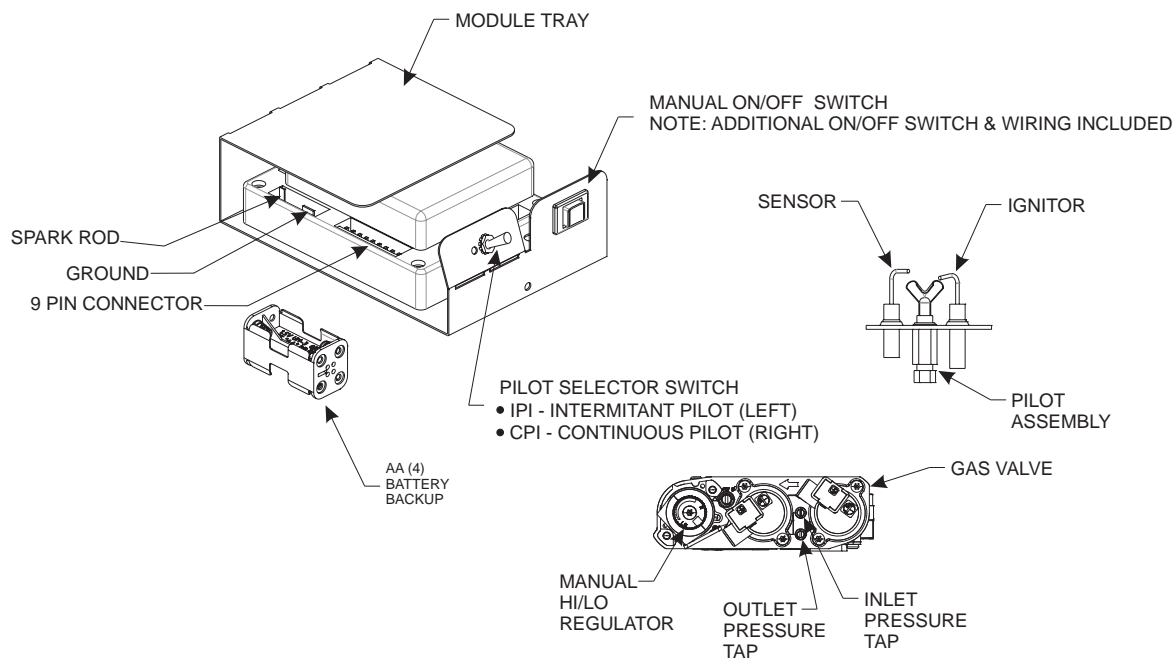

Figure 75
See Figure 75.
3. The gas valve has inlet and outlet pressure taps as shown in **Figure 75**. Refer to pages 8 and 17 for gas pressure requirements.
NOTICE: The gas control has a manual HI/LO flame adjustment knob (regulator) that allows you to increase or decrease the height of the burner flame. **See Figure 75.** Rotate the HI/LO knob counterclockwise to "HI" to increase the flame height, and clockwise to "LO" to decrease the flame height.
To connect the remote receiver to the appliance, first disconnect the ON/OFF switch wires from the white and green wire connectors and connect the wires from the remote receiver to the green and white wire connectors. **See Figure 75.** Follow the instructions included with the remote control for programming and other operational information.